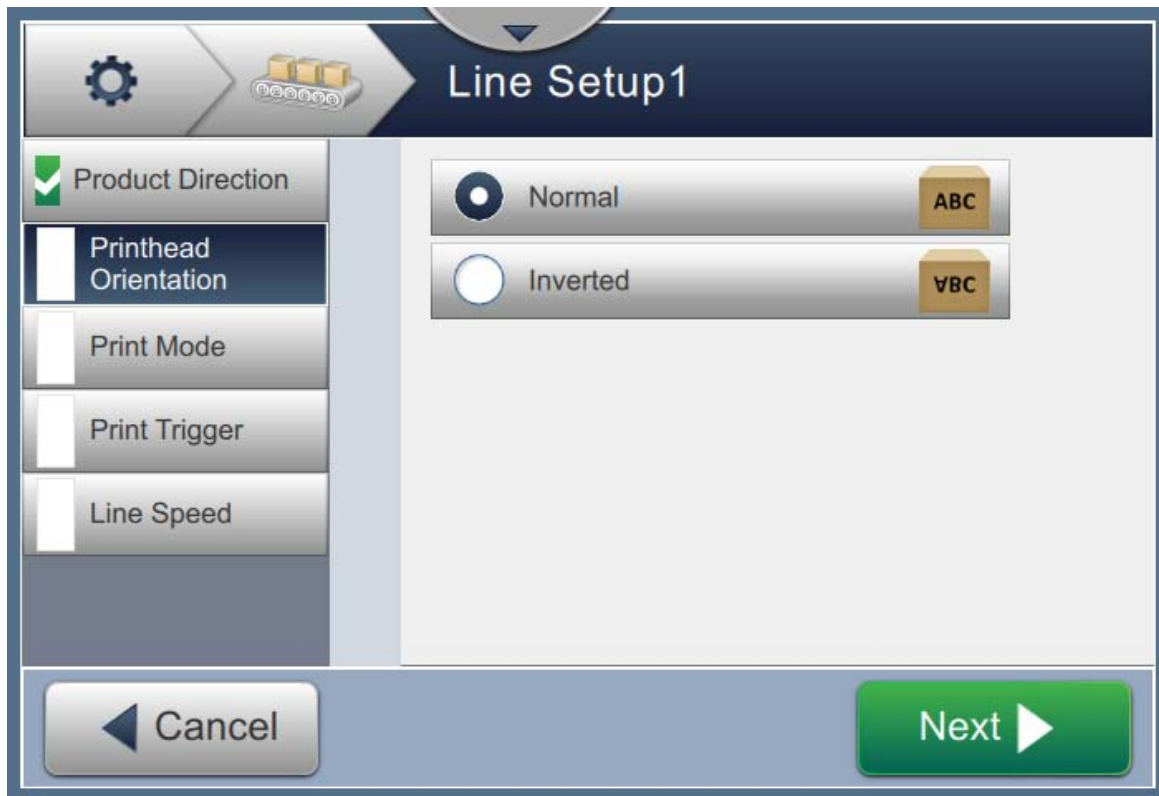

Figure 6-28: Line Setup - Printhead Orientation
1. Select the orientation of printhead as shown in Figure 6-28.